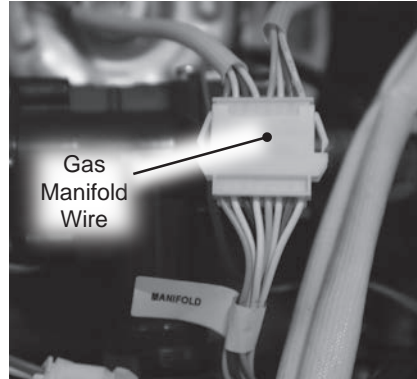

Figure 86 - Disconnecting gas manifold wire
- 12 Locate the gas manifold wire harness and disconnect it. See Figure 86.